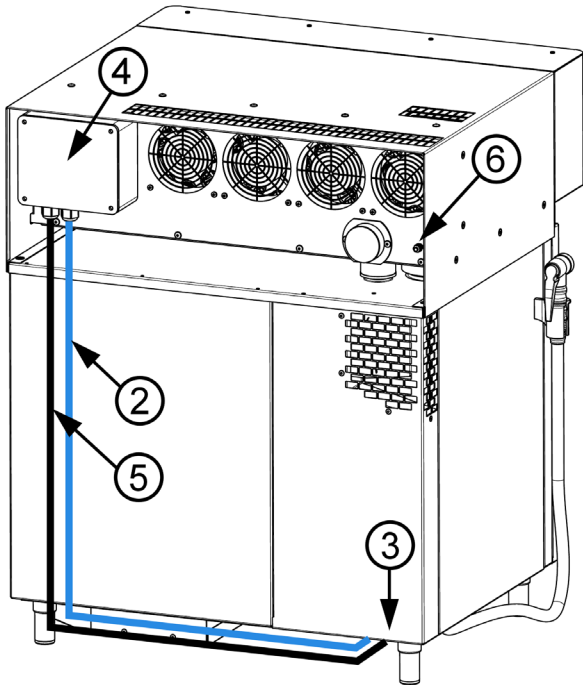

Figure 14: Back of 623 hood
At the back of the hood there is an M6 bolt (6), which is for protective couplings, see fig. 14. Connect it to a suitable cable and make the protective couplings.
At the back of the hood, there is a plastic distributor (4), from which the controlling UTP cable (2) emerges, at the end of which is connector RJ-45 (see fig. 14).
Run the UTP cable (2) directly downwards to the pierced flanges (3) in the back left corner of the base of the appliance (see fig. 14).
At the back of the hood (see fig. 14), there is a plastic distributor (4), from which the 3 x 1.5mm2 power cable emerges(5), terminating in loose leads.
Run the power cable (5) directly downwards from the plastic distributor (4) to the pierced flanges in the back left corner of the base of the appliance (3) (see fig. 14).